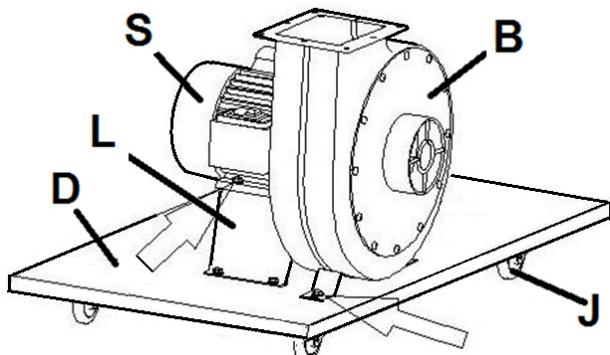

Fig 4
Attach the motor base (L, Fig 4) and the motor and fan assembly (S, B) to the base (D), using screws and washers provided (see Fig 4).